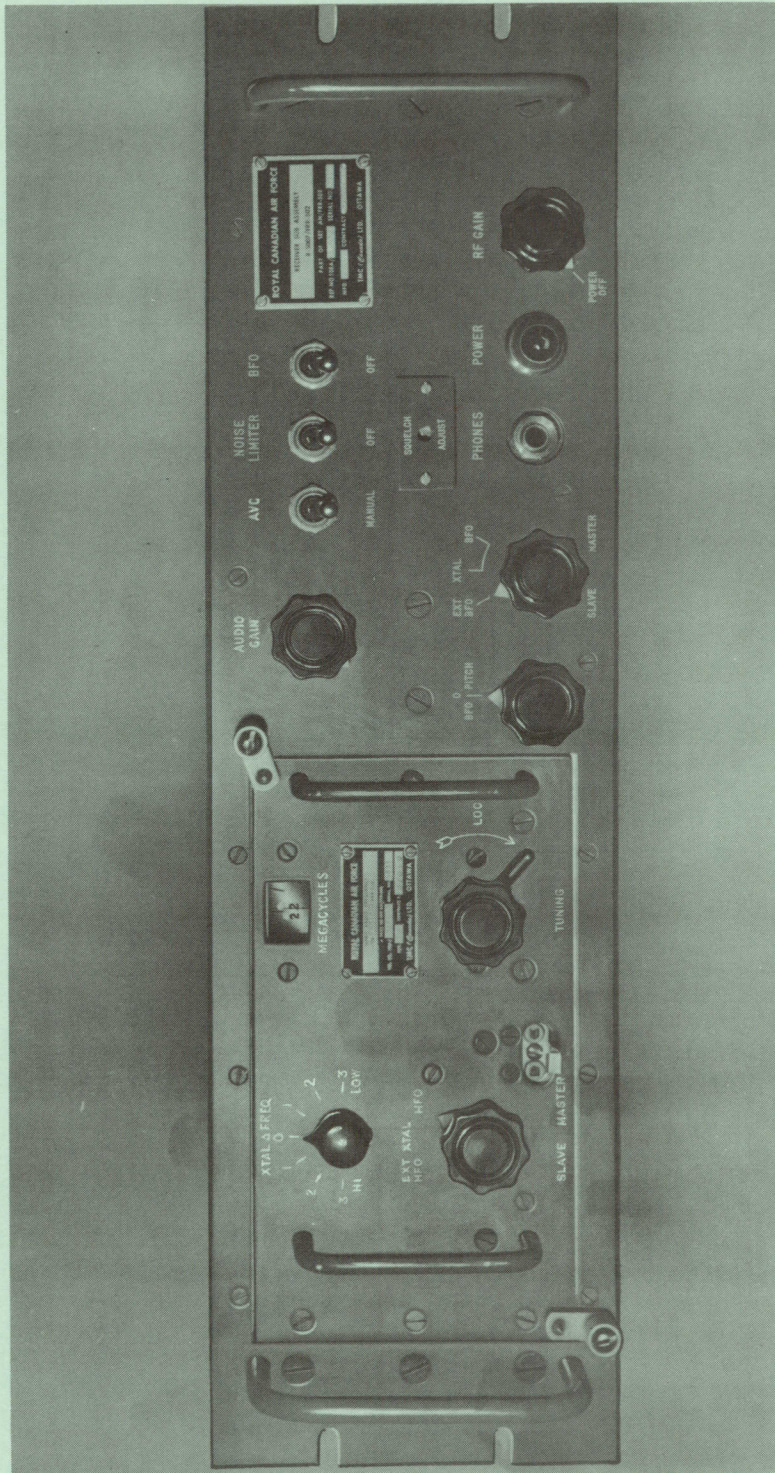

Figure 2 Front View, R-5007/FRR-502 with TN-5010/FRR-502
- Figure 2 Front View, R-5007/FRR-502 with TN-5010/FRR-502